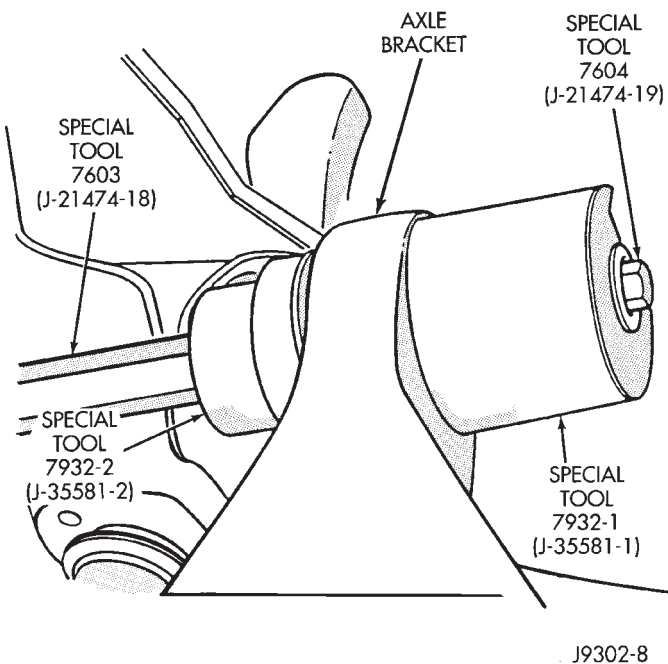

Fig. 5 Axle Bracket Bushing Installation
(5) Position the new bushing on Installer.
(6) Install the bushing by tightening the hex-head on Long Nut (Fig. 5). Remove Spacer 7932-3 (J-35581-3).